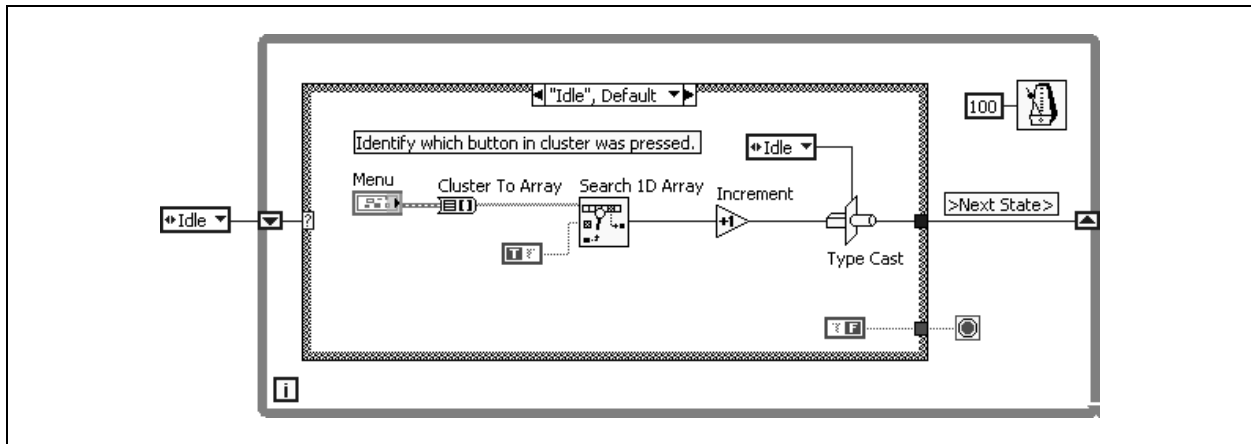

Figure 10-18. Idle State
In the following steps, you create the block diagram shown in Figure 10-18. This block diagram contains four states: Idle, Process 1, Process 2 and Stop.
4. Create the block diagram shown in Figure 10-18. Use the following tips to assist you:
2. Run the VI. Experiment with the VI to be sure it works as expected. If it does not, compare your block diagram to Figures 10-18 through 10-21.